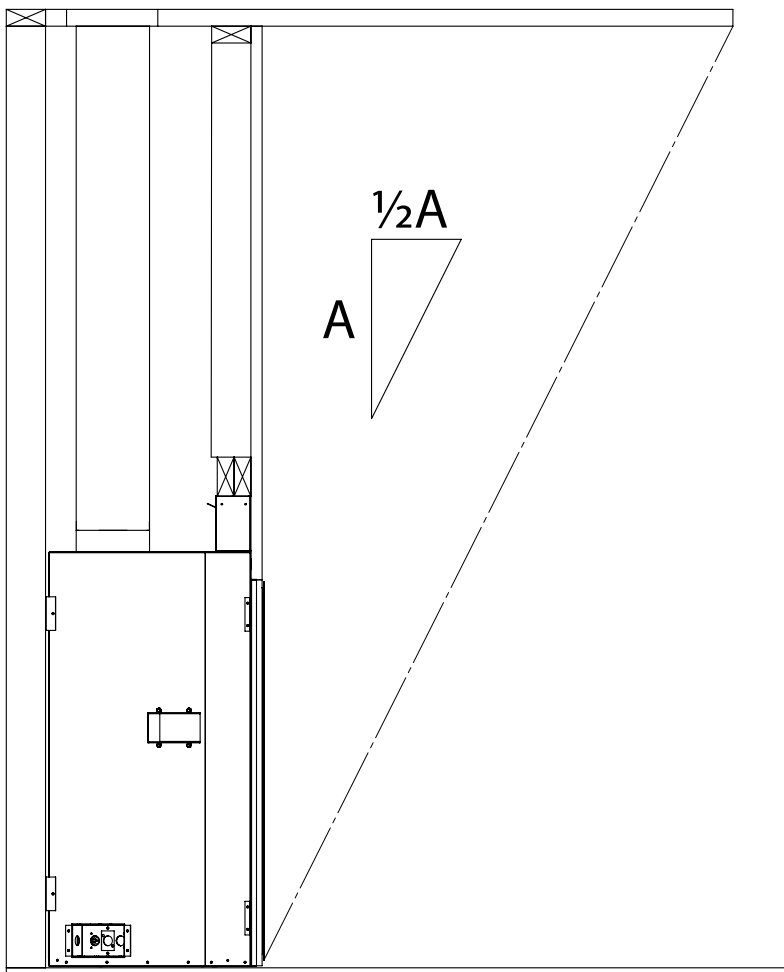

Figure 41: Overhang Depth Requirements
- The fireplace must be protected by an overhang with a depth that is at least equal to half of its height from the base of the fireplace, as shown in Figure 41.